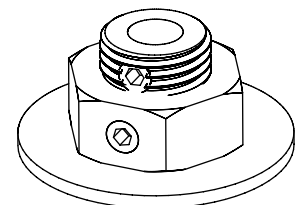

Fig 4. Az encoder pivot bolt as seen from inside of rocker box with washer and nut in place.
4) Turn mount normal way up and place 1/2" washer over Az encoder pivot bolt. Then fasten 1/2" hex nut over bolt as shown in Fig 4. Secure nut by tightening M4 set screw in side of nut using M2 hex key. Please note that on some installations, owing to the dimension of the gap between the ground board and rocker box, the washer may need to be excluded in order for the hex nut not to cover the set screw on the Az encoder pivot bolt.